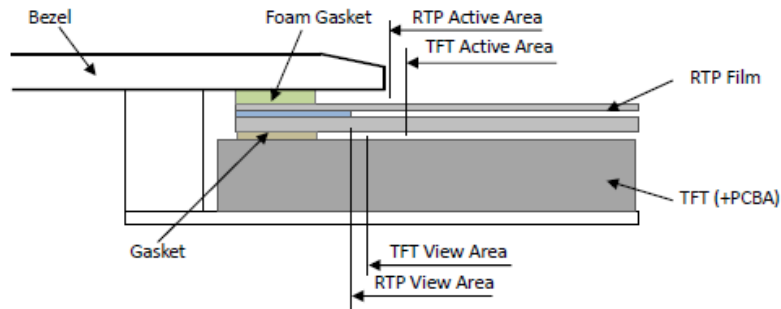

Figure 5
- In general design, RTP V.A. should be bigger than the TFT V.A. and RTP A.A. should be bigger than the TFT A.A. (Figure 5)
- 通常设计时：RTP 的可视区 V.A. 应不小于 TFT 的可视区 V.A. 及 RTP 的动作区 A.A. 应不小于 TFT 的动作区 A.A. (附图 5)